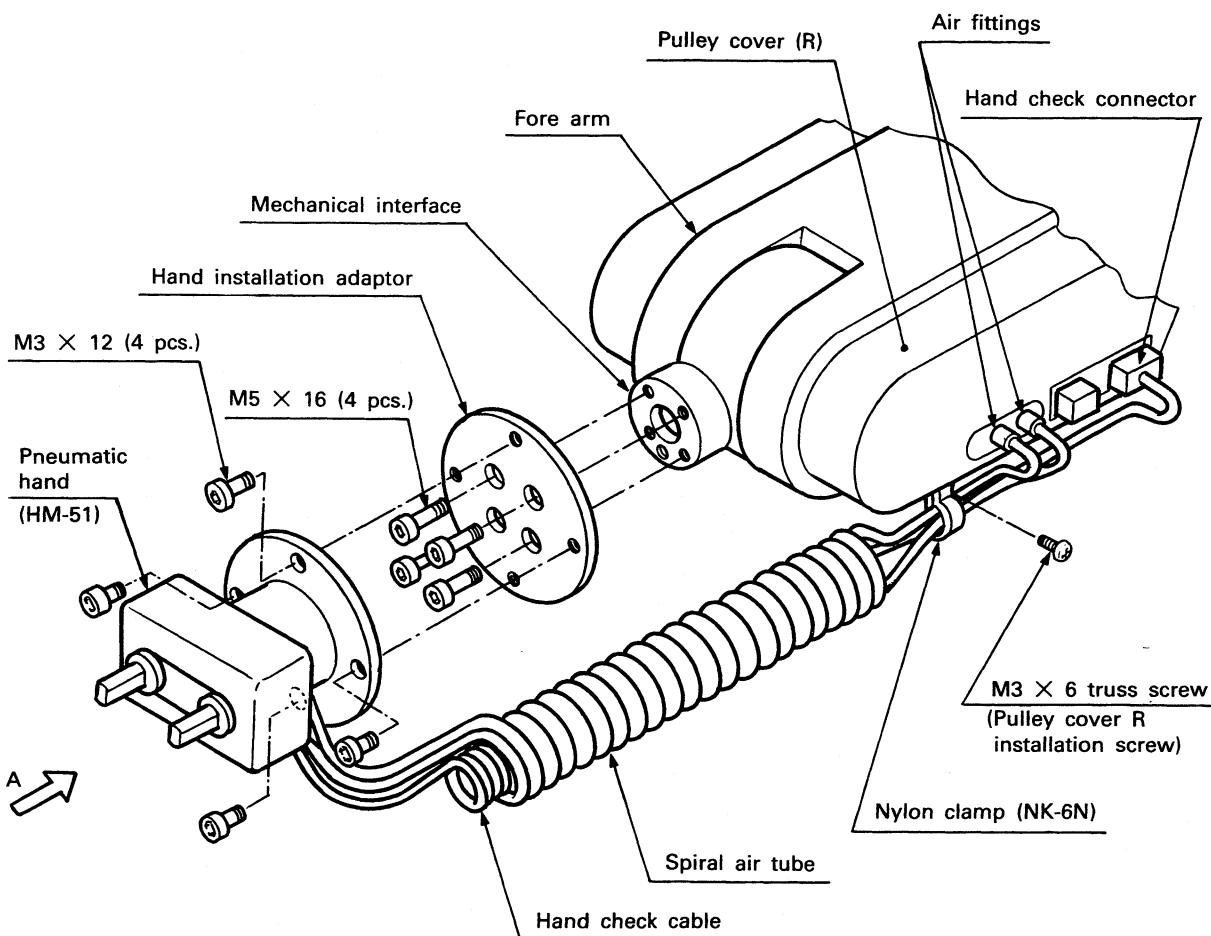
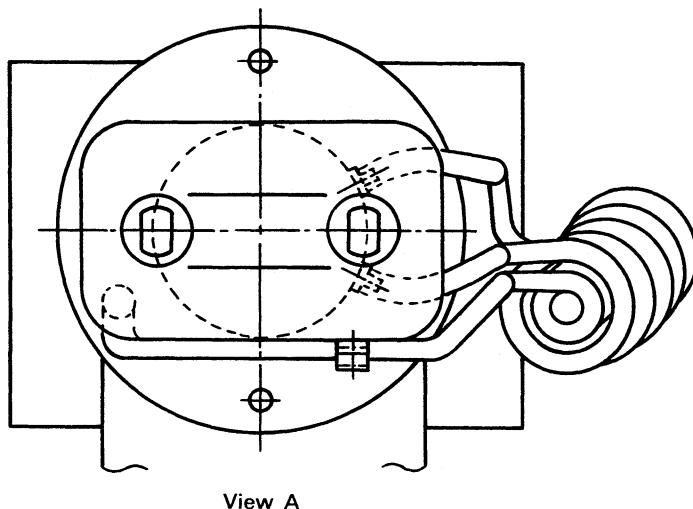

Fig. 2.1.12 Installation of the Pneumatic Hand (Option)
Fig. 2.1.13 Hand Installation Position Relationship
- (1) Fig. 2.1.12 shows the way of installing the pneumatic hand (option).
- (2) Set the wrist roll to the origin or perform jog operation to set it to the position after returning to origin (+180°).
- (3) Install the hand installation adaptor to the mechanical interface of the robot with four M5 × 16 hexagon socket head bolts.
- (4) Install the pneumatic hand to the hand installation adaptor with four M3 × 12 hexagon socket head bolts. At this time, the relationship between the pneumatic hand check cable outlet position and hand installation adaptor position must be as shown in Fig. 2.1.13. (The hand installation adaptor is at the position after returning to origin (+180°).)
- (5) After the hand has been installed, secure the spiral air tube and hand check cable into the fittings coming from the pulley cover (R) and hand check connector as shown in Fig. 2.1.12. Using the nylon clamp furnished with the hand, secure the straight sections of the spiral air tube and hand check cable to the fore arm together with the pulley cover (R) shown in Fig. 2.1.12 by means of the M3 × 6 truss screw securing the pulley cover (R).
- (6) Set the tool length to 108mm in accordance with Section 5.1, Vol. 2.
- (7) Set the pins to the source type in accordance with Section 4.3 "Interface Setting" in APPENDICES.